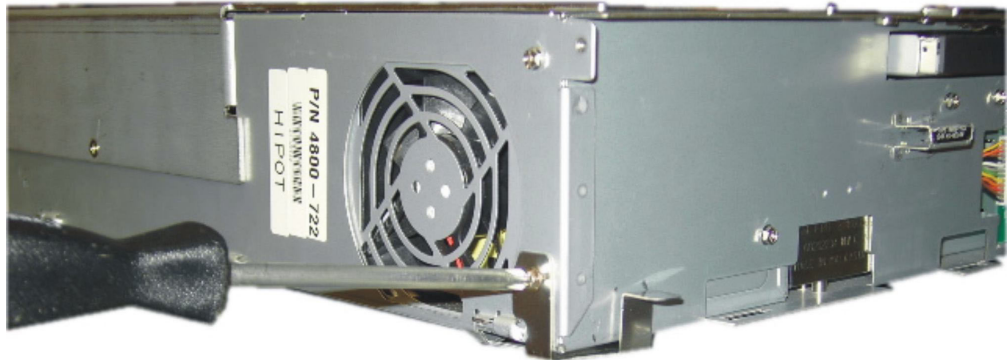

Figure 55. Removing the system latch
5. Align the new system latch to the corner of the unit as shown in Figure 55, insert screw and tighten.